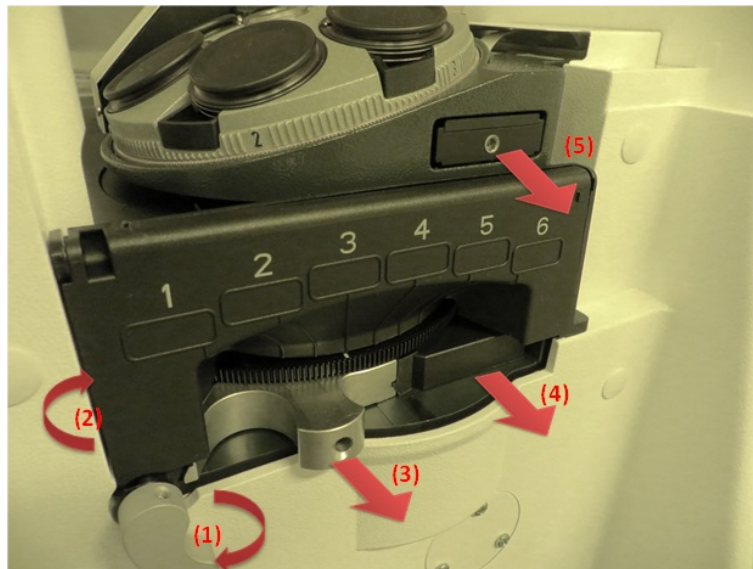

Figure A.3.: Side view of the microscope. (1) locking lever, (2) black plastic cover, (3) reflector turret handle (4) green filter holder (5) beam-combiner
1. Make sure the nosepiece holding the objective revolver reached its load position, then shut down the microscope. On the right side of the microscope as seen in Figure A.3, rotate the locking lever (1) downwards and open the black cover (2) upwards. Now you can carefully pull the reflector turret (3) out of the microscope and place it on a suitable surface.
The beam combiner for the DefiniteFocus module is located above the reflector turret and beneath the objective revolver (Figure A.3 (5)).
1. In order to make it accessible you have to move the nosepiece upwards so that the socket with the beam combiner module is freed from the black cover (Figure A.3 (2)). Note that for manually moving the nosepiece upwards, the microscope has to be on.
The green filter is located right next to the reflector turret handle (Figure A.3 (4), A.6).